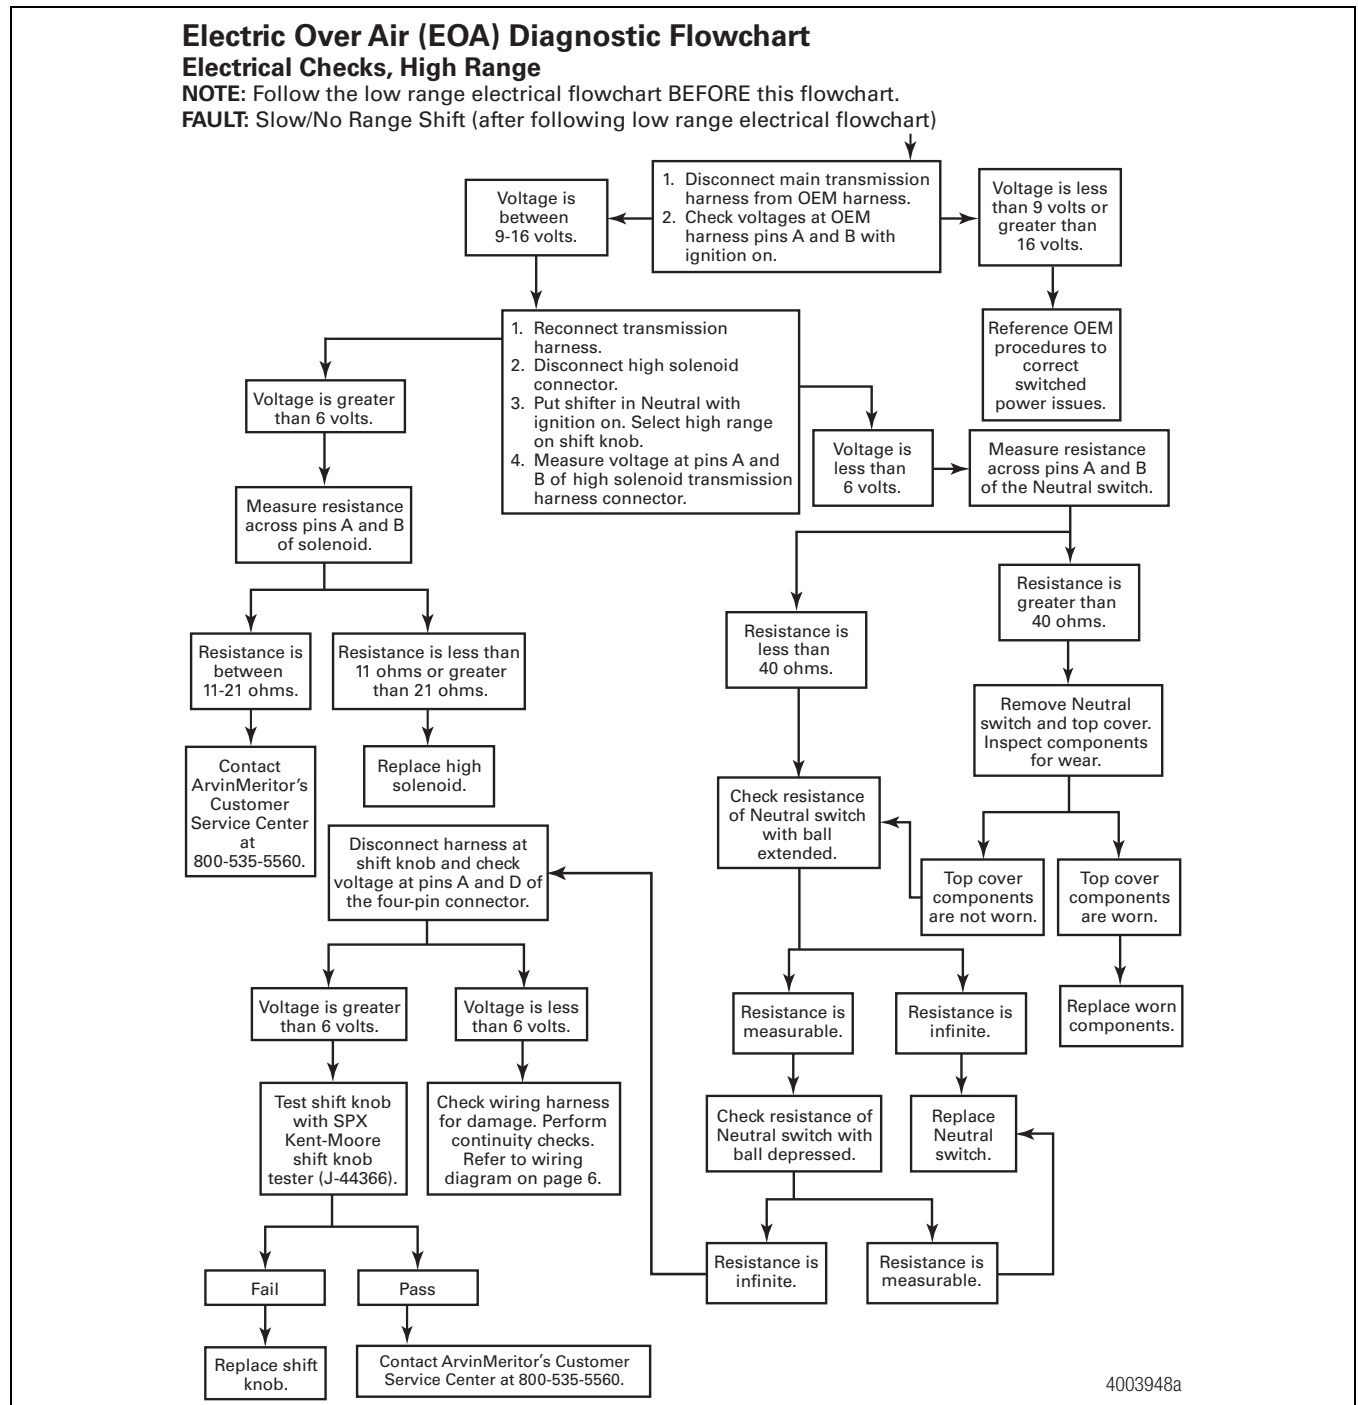

Figure 9.57
3. High Range Electrical Checks — Follow the high range electrical checks flowchart to verify that the high range electrical system functions correctly. Perform high range electrical checks AFTER mechanical checks and low range electrical checks. Figure 9.57.